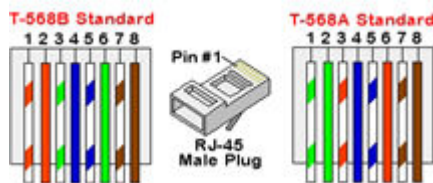

Figure 18: Standard cable wiring
1. Use a pre-crimped cable or use a crimper to prepare an RJ45 communication connector on both ends of a standard CAT5/6 cable: Insert the eight wires into the RJ45 connector. CAT5/6 standard cables have eight wires (four twisted pairs), as shown in the diagram below. Wire colors may differ from one cable to another. You can use either wiring standard, as long as both sides of the cable have the same pin-out and color-coding. See Figure 18 below.